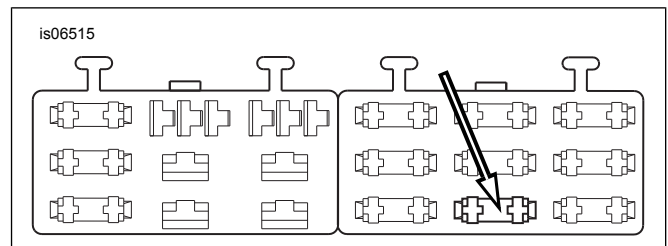

Figure 9. "OPEN" Fuse Block Cavity (2004 and Later Dyna)
4. See Figure 9. Locate the fuse cavity (1) indicated as "OPEN" on the fuse block cover in the right fuse block. There should be a wire feeding one side of this circuit, but no mating wire or fuse will be present. Insert the terminal on the orange/white adapter wire until it stops. Refer to a nearby factory installed terminal for comparison to verify proper orientation and depth.